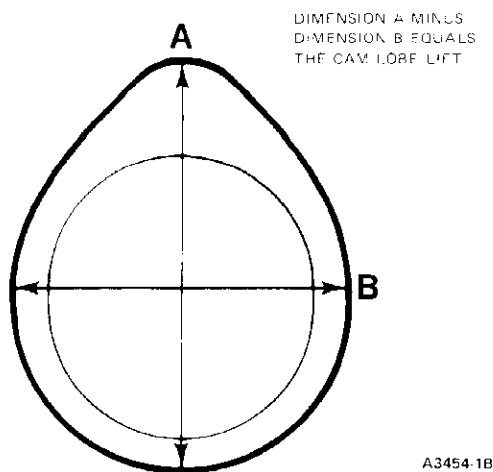

FIG. 7 Measuring Camshaft Lobe Lift
2. Measure the distance between the major (A—A) and minor (B—B) diameters (Fig. 7) of each cam lobe with a Vernier caliper and record the readings. The difference in the readings on each cam diameter is the lobe lift.